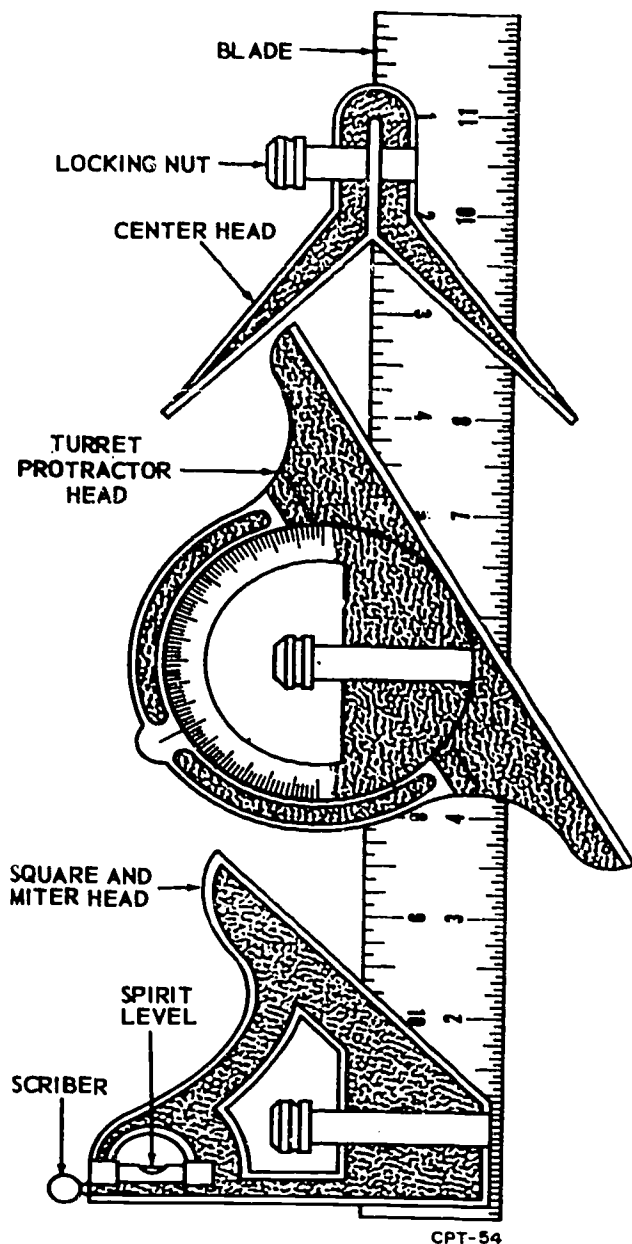

Figure 1-33. A combination set.
**Combination Set.** The combination set shown in figure 1-33 is, as its name indicates, a tool that has several uses. It consists of a rigid steel rule, called the blade, and three attachments—the square and miter head, the turret protractor head, and the center head. Although the illustration shows all three attachments installed on the blade, they are used individually. During use, only one attachment will be on the blade.
position. The central groove is not visible in figure 1-33 because it is located on the reverse side of the blade illustrated. However, in figure 1-34, the central groove is shown in each view of the blade. The steel blade usually is graduated in eighths, sixteenths, thirty-seconds, and sixty-fourths of an inch; it may be pulled out of the attachments and used as a measuring rule, if desired.
The center head, shown in figures 1-33 and 1-34, can be used to scribe a line through the center of a circular object or to measure the diameter. Notice how one edge of the blade bisects the angle of the center head. To locate the center of a circular object, you need to scribe two lines as shown in figure 1-35. The center is the place where the two scribe lines intersect. Hold the heads of a combination set snugly against the object being marked.
The turret protractor head, shown in figure 1-33, is graduated in 360° and can be used to determine the number of degrees in an unknown angle, to construct angles of known degrees, or to transfer and lay out identical angles. In the terminology of sheet metal working terminology, the words "angle" and "bevel" often are used interchangeably. For example, a long section of gravel guard, for the edge of a flat roof, will have a V-shaped groove for a stiffener. When making the angles of groove on a cornice brake, you may hear them referred to as angles or bevels. The turret protractor can be used to duplicate bevels such as these V-shaped grooves of gravel guards.